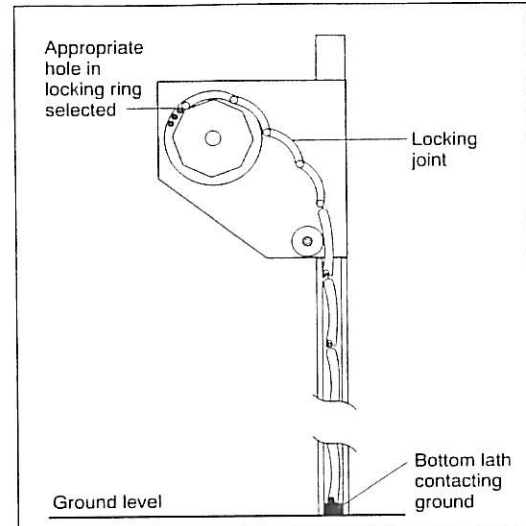
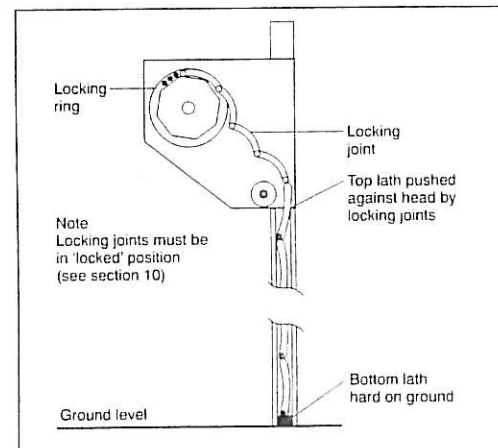

Fig 27 Fully closed position
Fig 28
**IMPORTANT** see Fig 27 and Fig 28 in section 10 for correct CLOSE position.
In order that the locking joints operate effectively, the position of the shaft in the closed position needs to be finely adjusted. Use the Manual override to move the curtain downwards until the bottom lath is pushed firmly on the ground and the top lath is pushed hard against the head. The locking joints should be sprung into the locked position. (Fig 28). Do not adjust past this position as this will impose excessive loads on the mechanism.